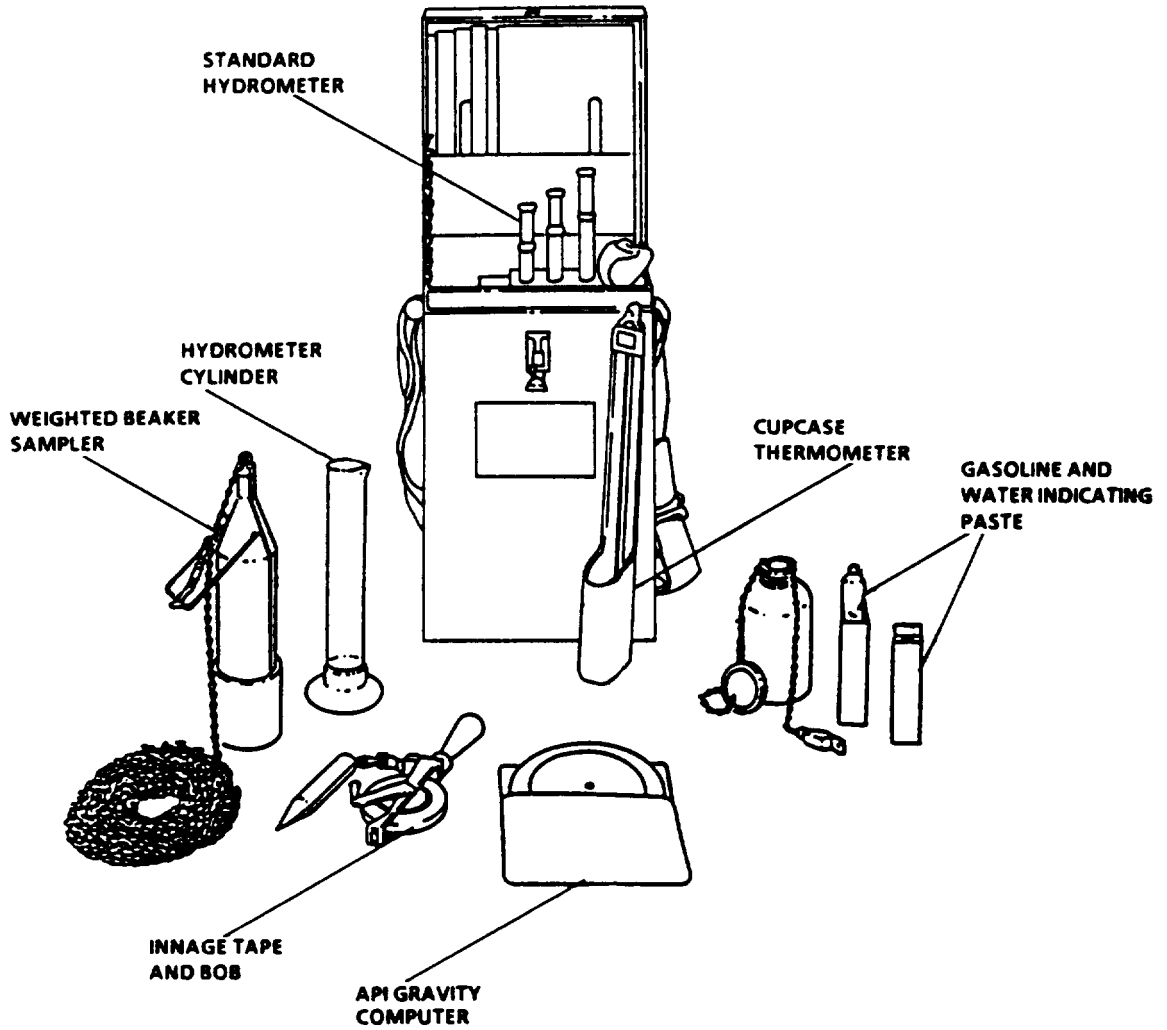

Figure 2-17. Sampling and Gage Kit
- (11) Properly dispose of liquids. Wash apparatus with soap and water and dry thoroughly.
- (12) Report out of specification results at once.
e. Sampling and Gage Kit Operation (Cabinet No. 5). (Refer to Figure 2-17). This kit is completely portable and self-contained. It consists of the carrying case, which is divided into section to hold the major items of equipment, an API gravity computer, a cupcase thermometer, a hydrometer cylinder, gasoline indicating paste, water indicating paste, innage tape and bob, a weighted beaker sampler, and thermal hydrometers. Set up the kit for operation as follows:
- (1) Clean innage tape with cheesecloth. Ensure equipment is clean, dry, and free of dirt.
- (2) Check mercury columns in hydrometer and cupcase thermometer. If mercury column is separated or glass cracked, replace the instrument.